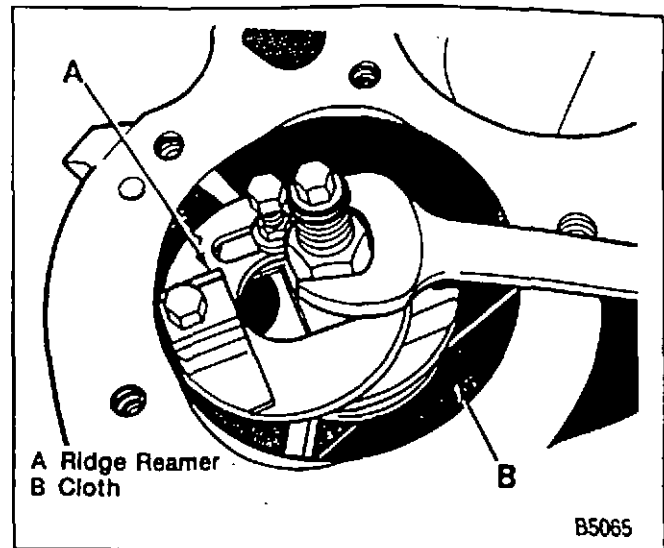

Figure 34—Removing the Cylinder Ridge
Remove or Disconnect (Figures 34 and 35)
- B. Using the manufacturer's directions, install a ridge reamer into the top of the cylinder (figure 34). Perform the cutting operation.